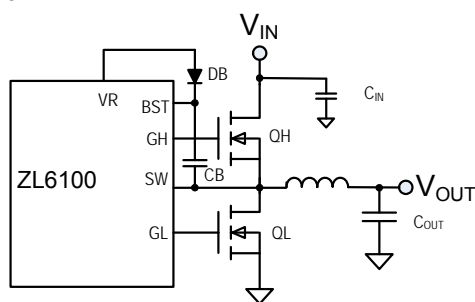

FIGURE 4. SYNCHRONOUS BUCK CONVERTER
Figure 4 illustrates the basic synchronous buck converter topology showing the primary power train components. This converter is also called a step-down converter, as the output voltage must always be lower than the input voltage. In its most simple configuration, the ZL6100 requires two external N-channel power MOSFETs, one for the top control MOSFET (QH) and one for the bottom synchronous MOSFET (QL). The amount of time that QH is on as a fraction of the total switching period is known as the duty cycle D , which is described by Equation 1:
Typically, buck converters specify a maximum duty cycle that effectively limits the maximum output voltage that can be realized for a given input voltage. This duty cycle limit ensures that the lowside MOSFET is allowed to turn on for a minimum amount of time during each switching cycle, which enables the bootstrap capacitor (CB in Figure 4) to be charged up and provide adequate gate drive voltage for the high-side
The gate drive voltage for the high-side MOSFET driver is generated by a floating bootstrap capacitor, CB (see Figure 4). When the lower MOSFET (QL) is turned on, the SW node is pulled to ground and the capacitor is charged from the internal VR bias regulator through diode DB. When QL turns off and the upper MOSFET (QH) turns on, the SW node is pulled up to V_{DD} and the voltage on the bootstrap capacitor is boosted approximately 5V above V_{DD} to provide the necessary voltage to power the high-side driver. A Schottky diode should be used for DB to help maximize the high-side drive supply voltage.